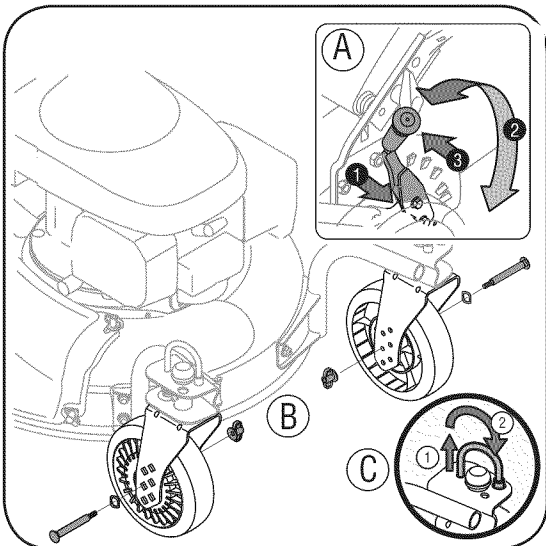

Figure 3-7: Use lever to adjust the cutting height.
1. The cutting height adjustment lever is located above the rear left wheel, Figure 3-7.